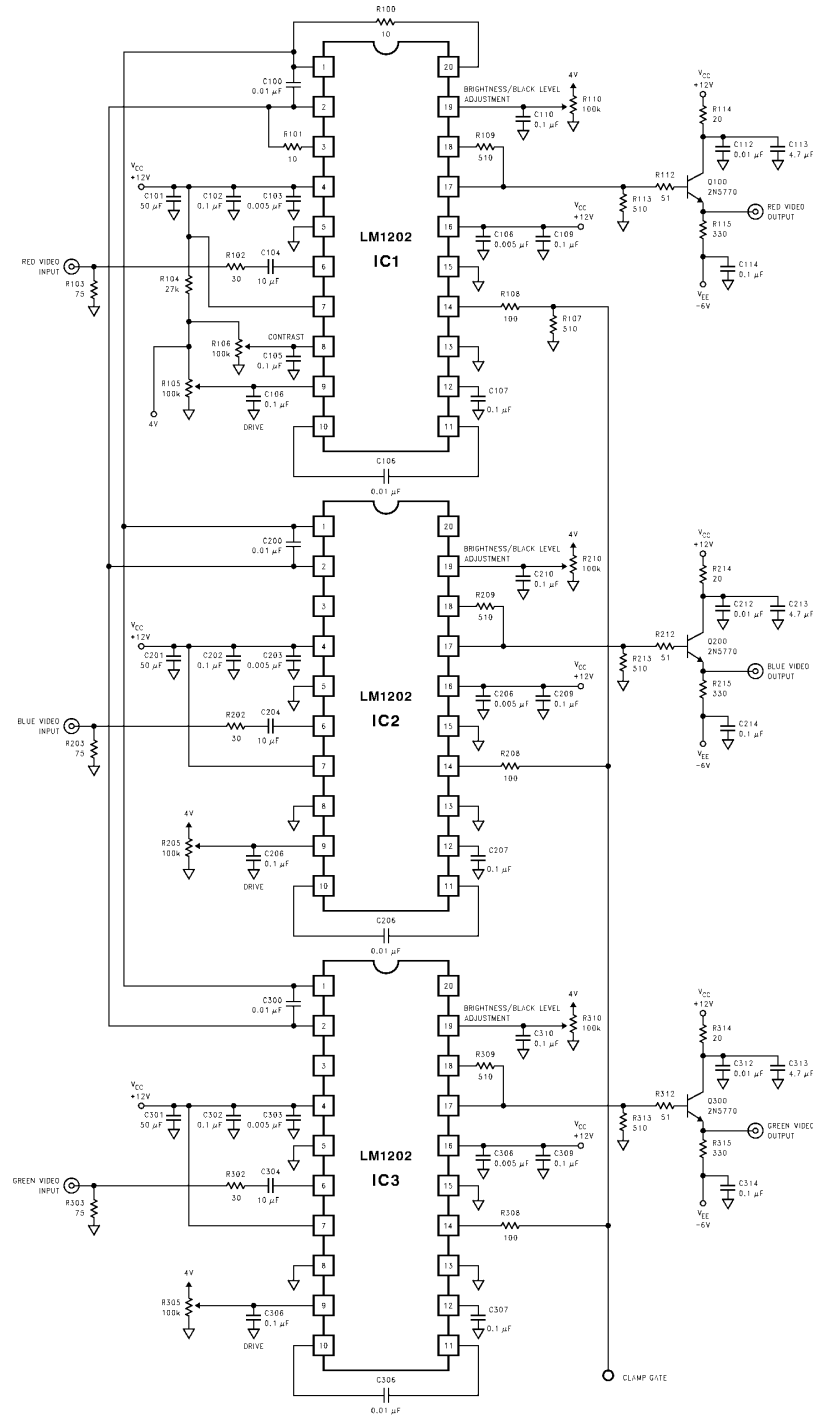

FIGURE 10. Typical RGB Application with Contrast, Drive and Black Level (Cutoff) Control
*Figure 10* shows an RGB video preamplifier circuit using three LM1202s. Note that pins 1 and 2 of IC1 are connected to pins 1 and 2 of IC2 and IC3 respectively. This allows IC1 to provide a master contrast control and optimum contrast tracking. Adjusting the contrast voltage at pin 8 of IC1 will vary the gain of all three video channels. Drive control input (pin 9) of each LM1202 allows individual gain adjustment for achieving white balance.